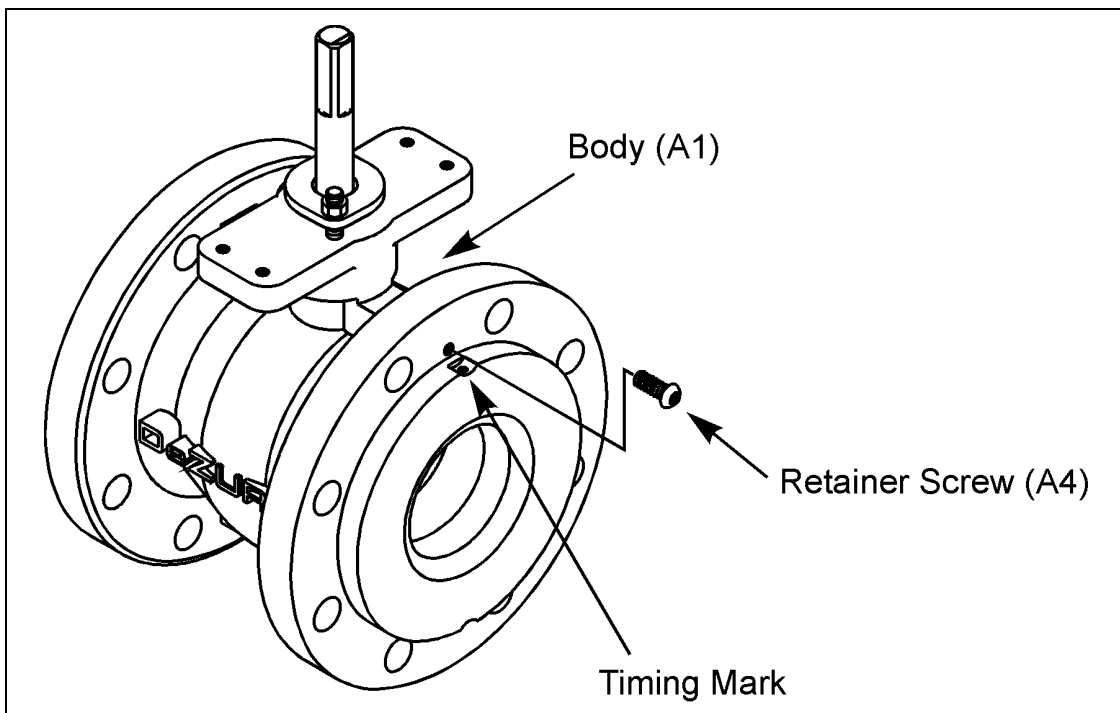

Figure 4 – Timing Mark Toward Valve Neck
12. Place the seat retainer (A3) in the valve body with the timing mark, which is located on one of the retainer screw cutouts, toward the valve neck as shown in Figure 4.